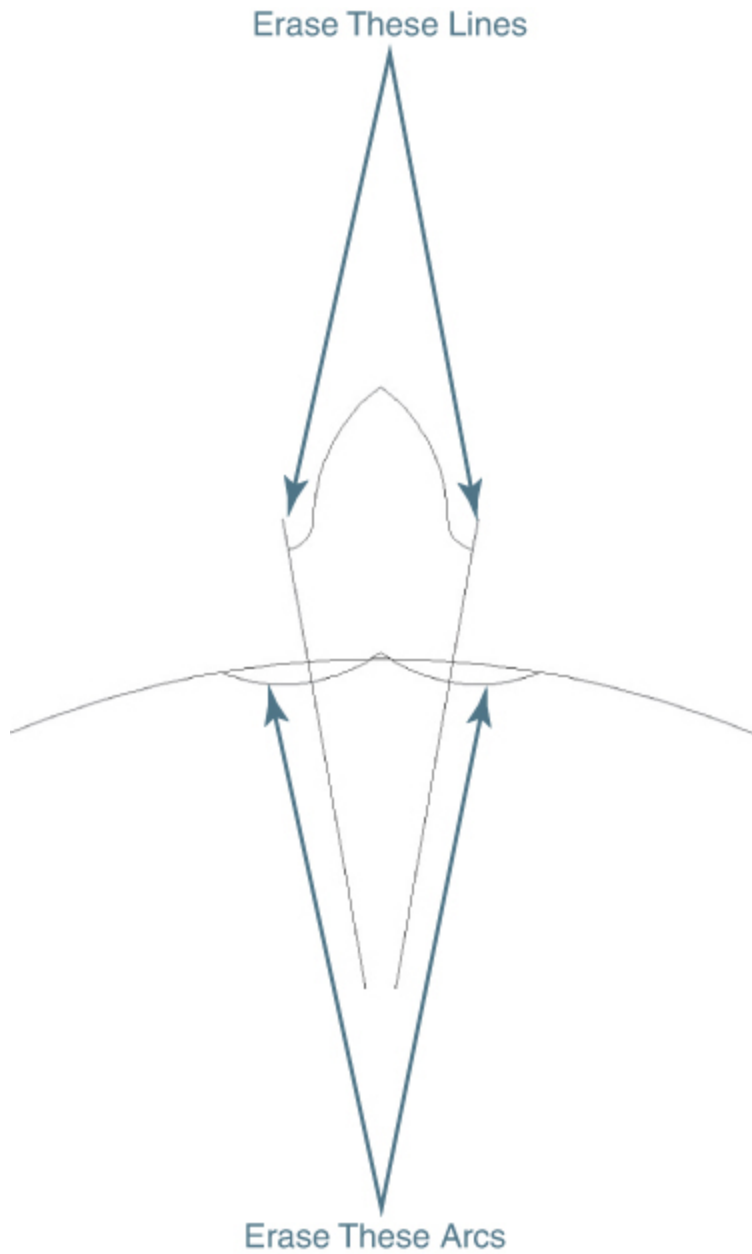

Figure 8-22
- 12** Choose the **Erase** option, and select the objects shown in Figure 8-22 to erase. Press **<Enter>** to erase the objects. Press **<Enter>** again to end the **TRIM** command.